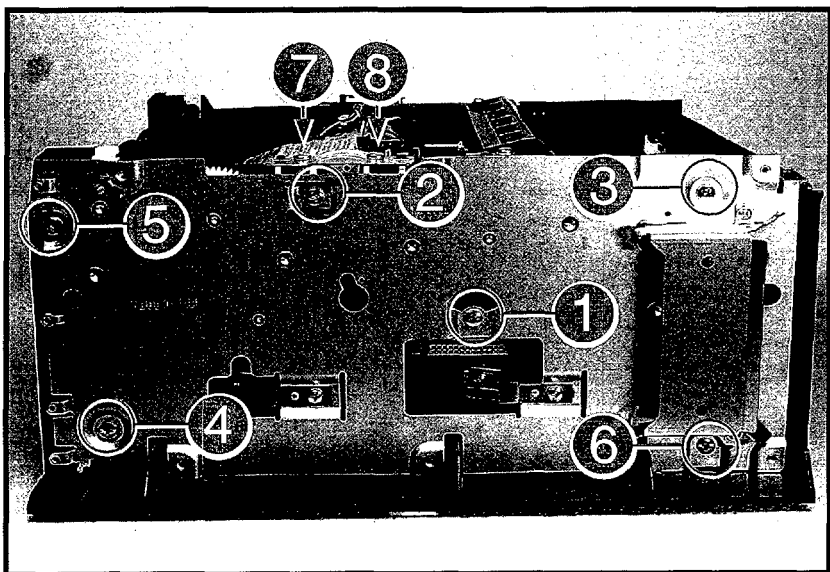

Figure 6-16 Screw Tightening Sequence Example (LaserJet 4P shown)
2. Tighten the screws beginning in the center and working outward (Figure 6-16).